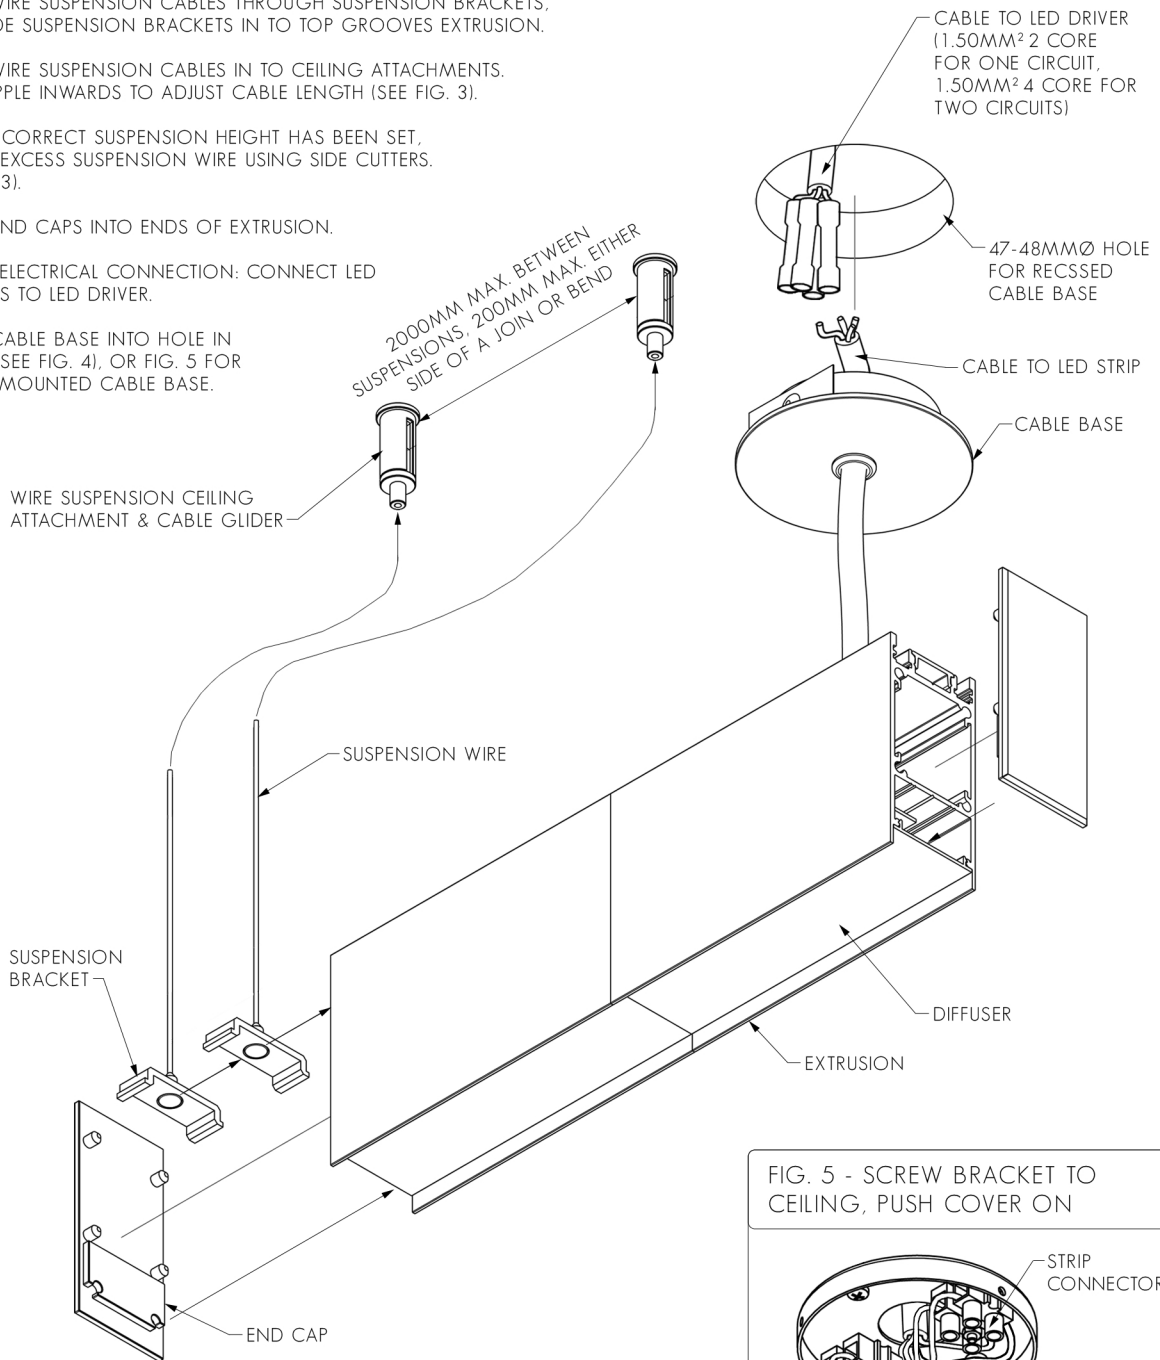

FIG. 3 - ADJUST SUSPENSION CABLE
2. FEED WIRE SUSPENSION CABLES IN TO CEILING ATTACHMENTS. PRESS NIPPLE INWARDS TO ADJUST CABLE LENGTH (SEE FIG. 3).
3. ONCE CORRECT SUSPENSION HEIGHT HAS BEEN SET, CUT OFF EXCESS SUSPENSION WIRE USING SIDE CUTTERS. (SEE FIG. 3).